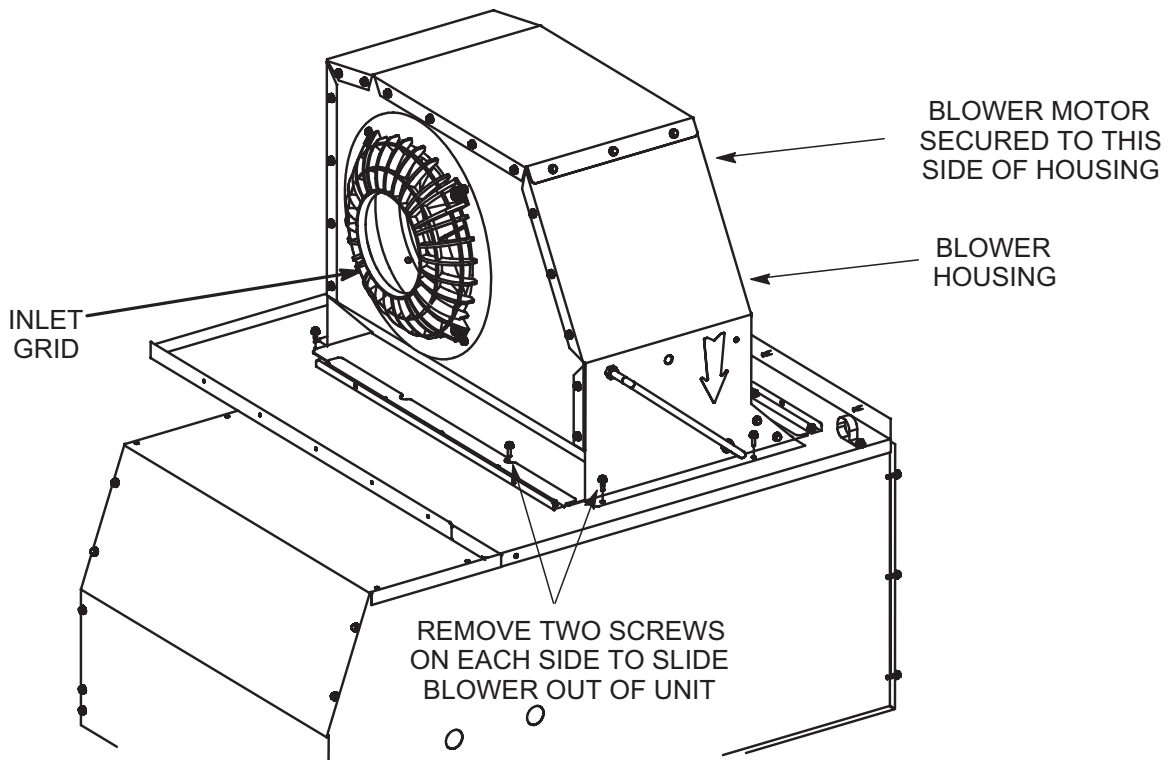

FIGURE 8
- 2 - Remove and retain screws in front and on either side of blower housing. Pull frame toward outside of unit. See FIGURE 8.